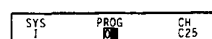

Fig. 5.
- 5 Select the second element of the double-digit number with $\Delta+$ or $\nabla-$ or the number buttons (e.g. For "04", select "4" here) (See Fig. 5.) and press OK.